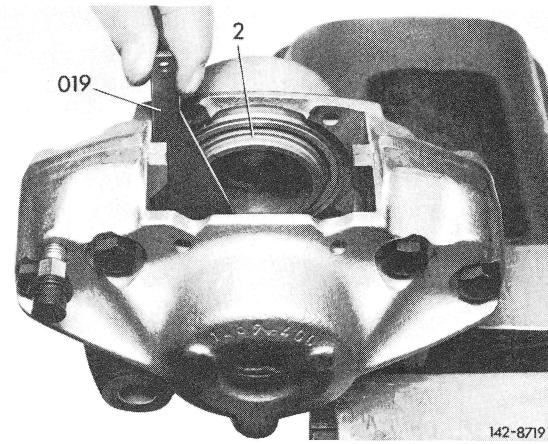

Fig. 12
10 Insert piston into bores of caliper. Then check position of piston in caliper with piston gauge (019) (Fig. 12).